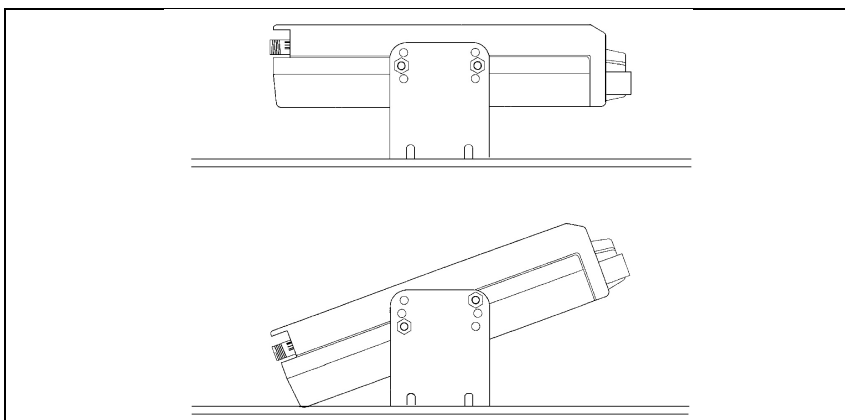

Figure 4 - Mounting the Charger
- 5) Using the four machine screws and lock washers, secure the unit to the mounting bracket. The charger can be fastened in any of three different positions: parallel to the mounting surface or tilted  $\pm 20$  degrees from the parallel position. See figure 4.